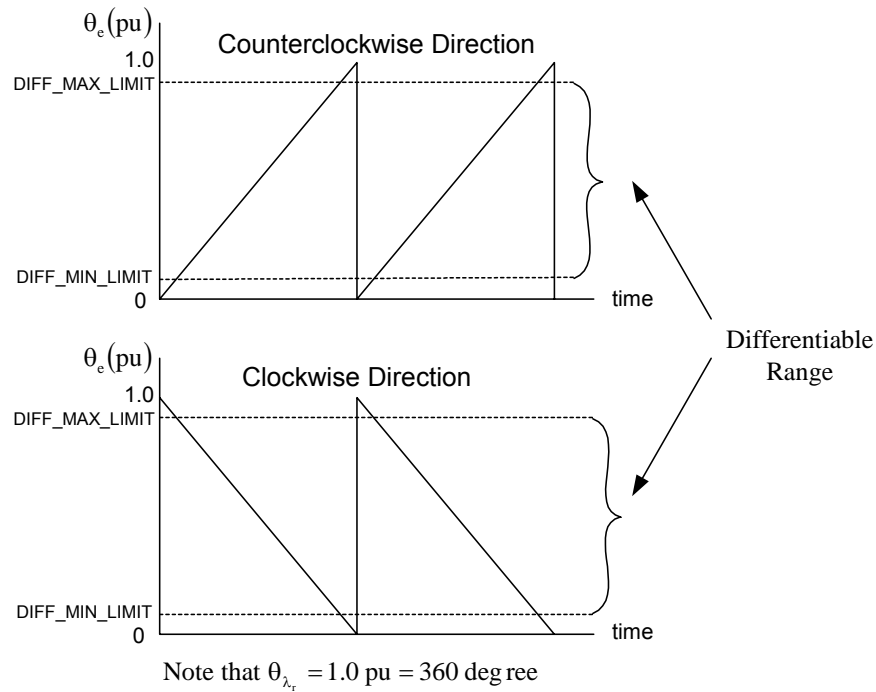

Figure 1: The waveforms of rotor position in both directions
The typical waveforms of the electrical rotor position angle, θ_e , in both directions can be seen in Figure 1. Assuming the direction of rotation is not available. To take care the discontinuity of angle from 360° to 0° (CCW) or from 0° to 360° (CW), the differentiator is simply operated only within the differentiable range as seen in this Figure. This differentiable range does not significantly lose the information to compute the estimated speed.